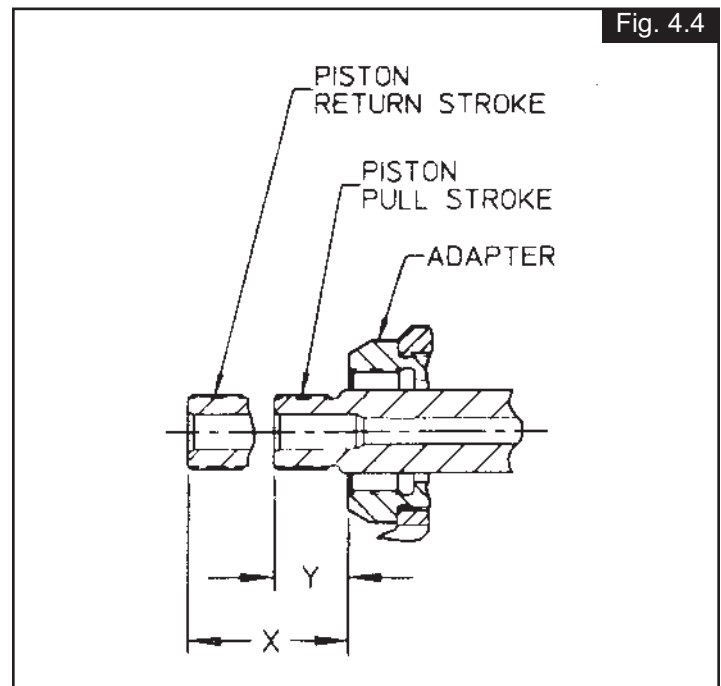

Figure 5
11. **Figure 5** - Position Cable Assembly in Trigger slot and push Dowel Pin through holes in trigger and cable assembly. Position assembled trigger in handle and drive Pin through holes in handle and trigger.
27. Assemble components into Collet, as shown in **Figure 5**. Screw assembled collet onto piston rod. Tighten securely.
Some parts are available separately as well as in subassemblies. Refer to figures 5, 6, 7, 8, and 9 on the previous and following pages for these parts listed below.